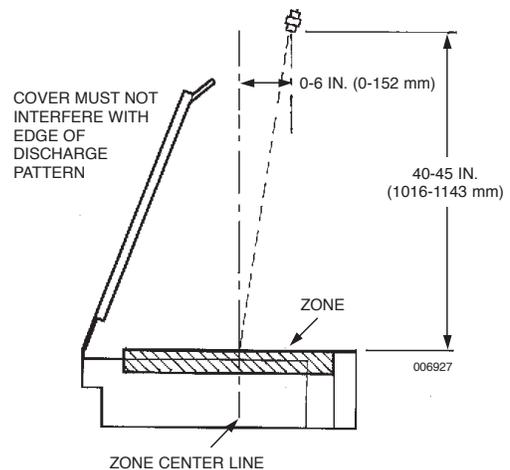

FIGURE 4-105
* See Figure 4-105 for nozzle location